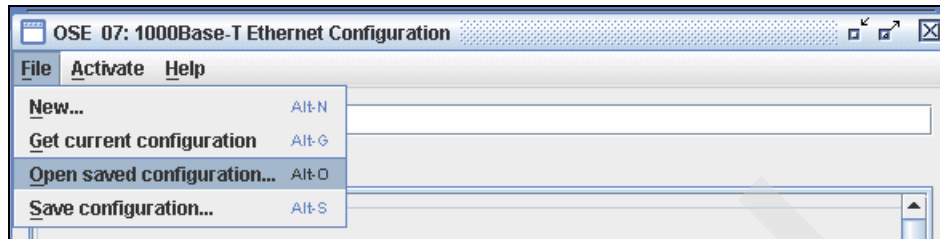

Figure 4-23 OSA/SF Workstation Interface - Open saved configuration
3. OSA/SF displays a default panel for the type of feature selected. Click **File** → **Open saved configuration...** (Figure 4-23 on page 156).